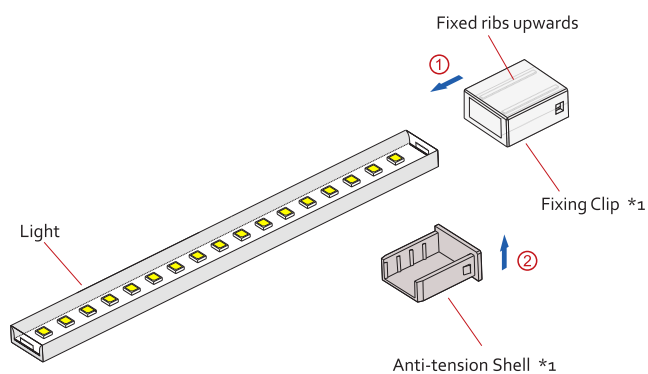

Fig. 5.1
- Fig. 5.1 — Pls doing the assembly according to ① ② ③ ④ steps, and make sure the fixing clip's two fixed ribs are upwards.